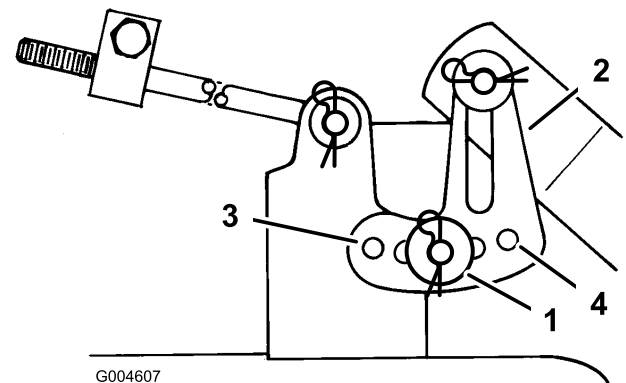

Figure 42
11. Remove the hairpin cotter and washer from the leveling bracket (Figure 42).
12. Position the leveling bracket in a different hole and install the washer and hairpin cotter (Figure 42).